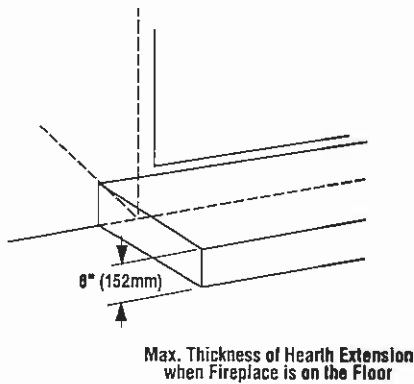

Figure 55
**WARNING: FIREPLACE MUST BE RAISED IF HEIGHT OF HEARTH EXTENSION EXCEEDS 6" (152 MM) ABOVE BOTTOM OF FIREPLACE (FIGURE 55).**